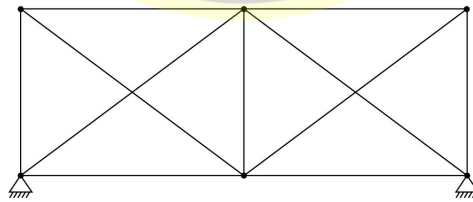

Fig. Q. 34
34. The degree of indeterminacy of pin jointed frame shown in Fig. Q. 34 is